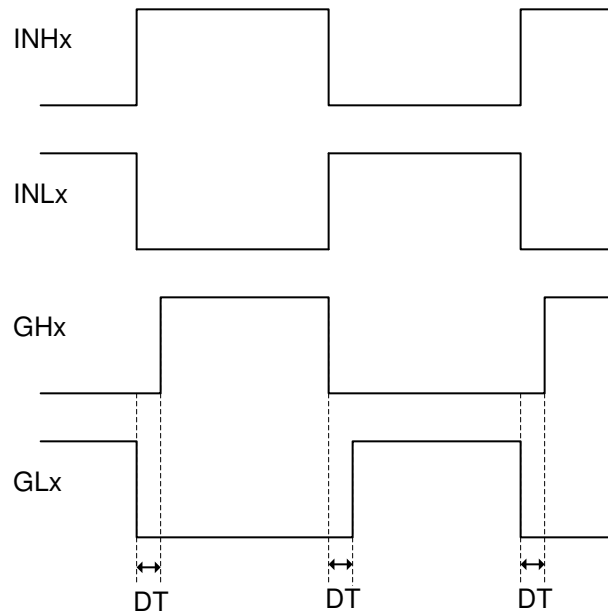
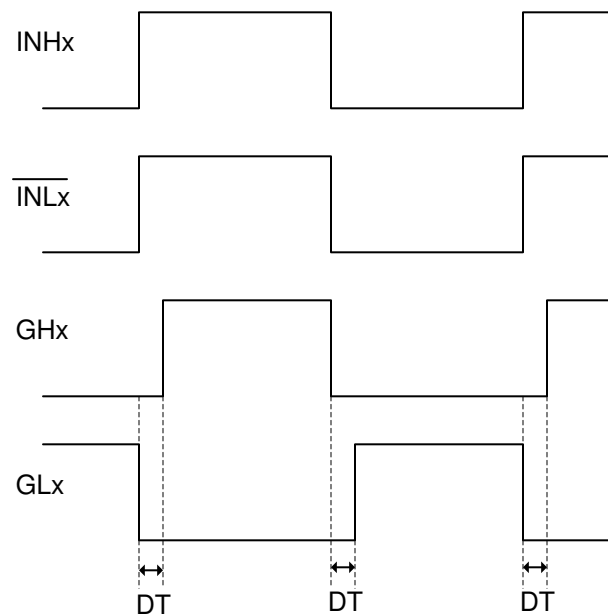

图 7-3. Non-Inverted INLx inputs (MODE = floating)
图 7-4. Inverted INLx inputs (MODE = GVDD or TSSOP package variant)
When the MODE pin is left floating, INLx is configured to be in non-inverting mode and GLx output is in phase with INLx (see 图 7-3). When MODE pin is connected to GVDD, GLx output is out of phase with inputs (see 图 7-4). The TSSOP (PW) package variant does not have a MODE pin, so the INLx pins are inverted by default.